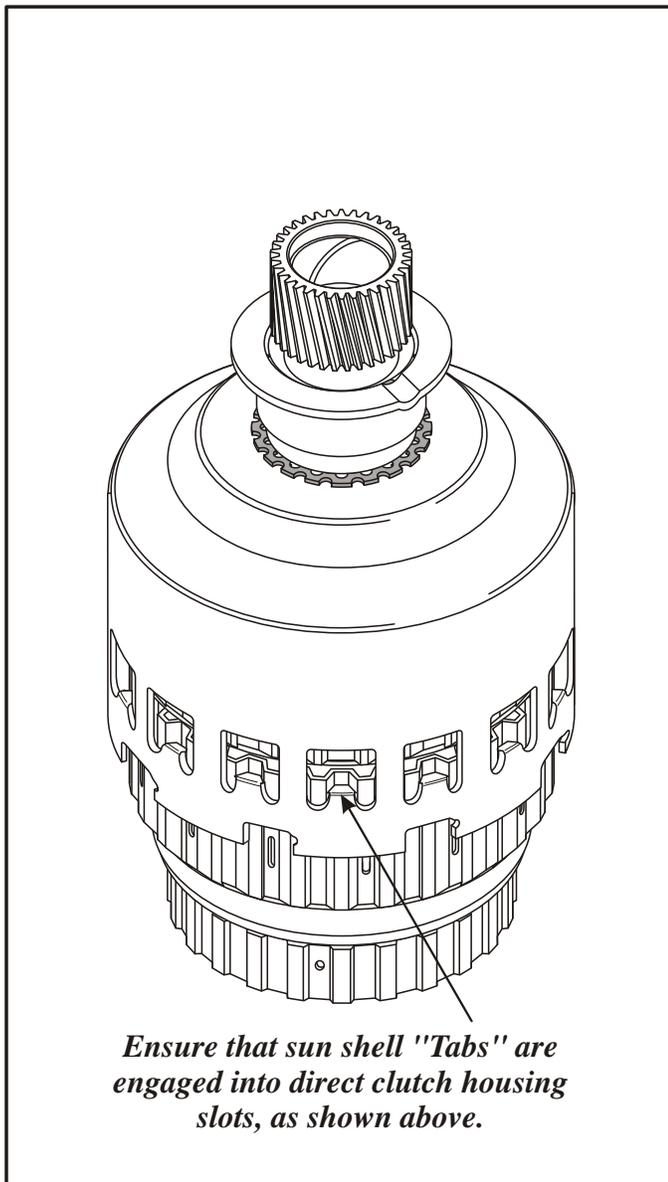

Figure 149
7. Ensure that sun gear shell tabs are engaged in the slots of the direct clutch housing, as shown in Figure 149.